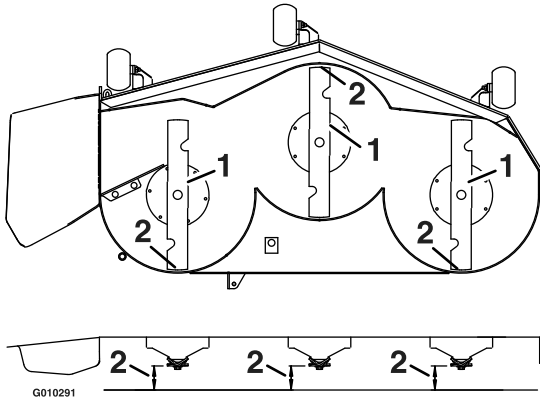

Figure 68
- Carefully rotate the blades so they are facing front to rear (Figure 68).
- Measure from the tip of the front blade to the flat surface and the tip of the rear blade to the flat surface (Figure 68). If the front blade tip is not “R” (see Block Height and Rake Table in **Deck Leveling**) lower than the rear blade tip, adjust the front deck hanger.